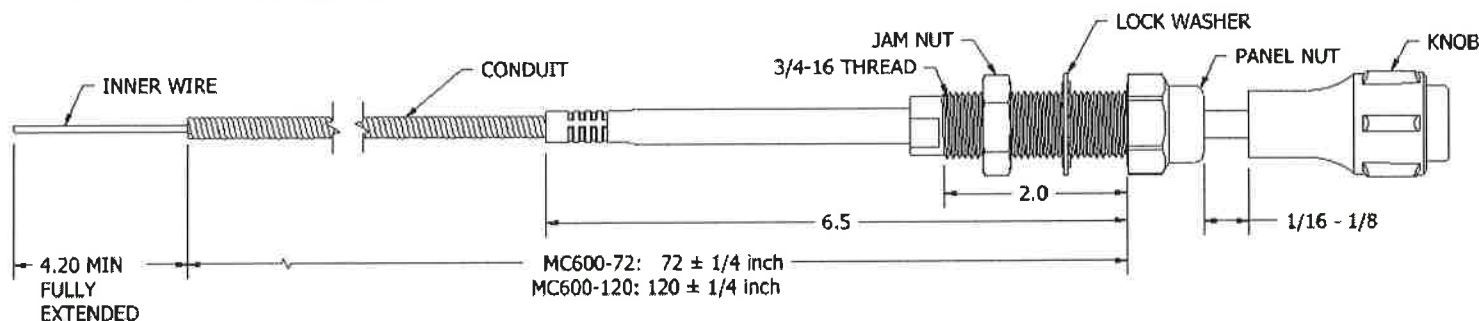

Figure 1.
10. Position the mixture control knob $\frac{1}{16}$ - $\frac{1}{8}$ of an inch from the panel nut as shown in Figure 1. Hold the carburetors mixture arm in the full rich position. Tighten or otherwise secure the hardware as appropriate, making certain that the control's inner-wire is secure and will not slip. Follow the aircraft manufacturers service information when securing or tightening the attaching hardware.
12. Inspect the function of the installation by moving the mixture knob to the full lean position. Visually inspect the carburetor's mixture arm. It must be against the lean stop on the carburetor. Move the control knob to the full rich position. Visual inspect the control arm on the carburetor. It must be against the full rich stop and the mixture control knob must be $\frac{1}{16}$ to $\frac{1}{8}$ of an inch from the panel nut as shown in figure 1. Cycle the control from full rich to full lean several times. The control should move freely without excessive resistance throughout it's range of travel. Move the flight controls to all positions and check for interference between the flight controls and the mixture control when the mixture control is in all positions. Correct any interference before the aircraft is returned to service.